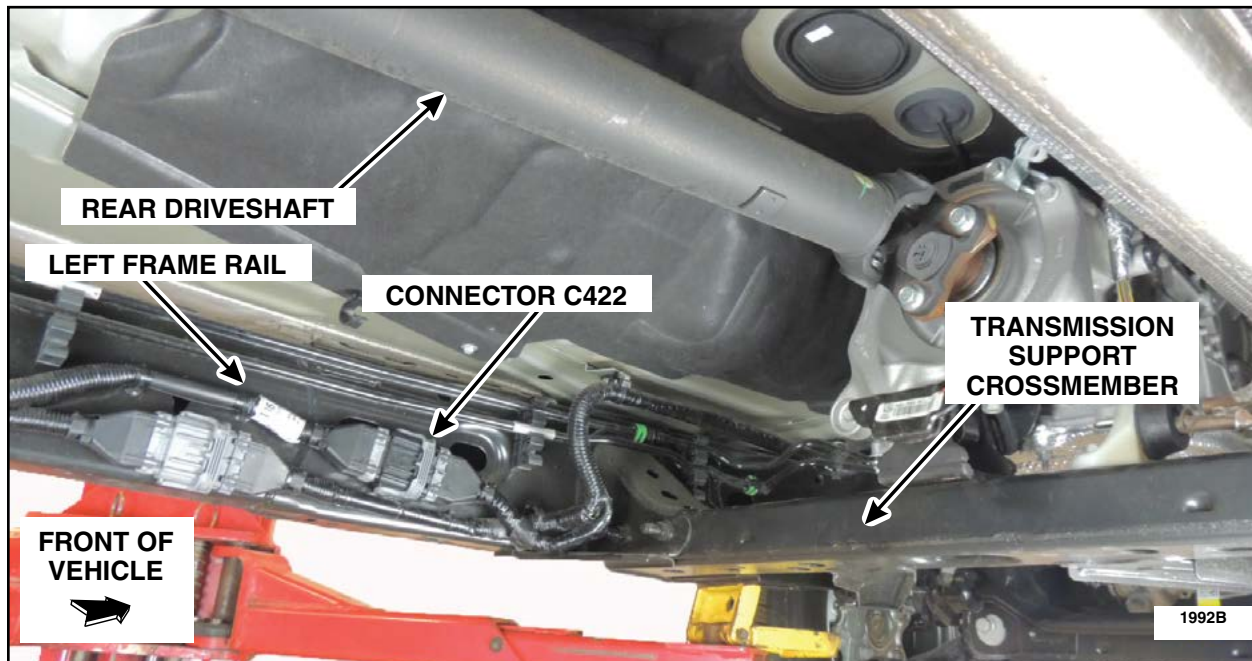

FIGURE 3
3. Locate connector C422, inside the left frame rail just rearward of the transmission support crossmember. See Figure 3.